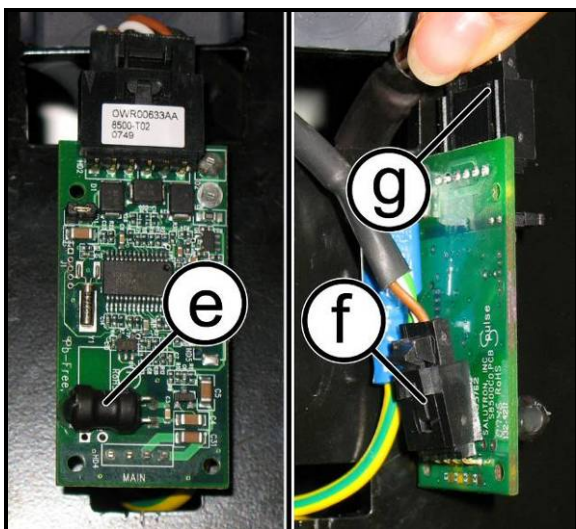

Figure 7.5-3
**WARNING:** During re-assembly, position the receiver so that the coil (b), highlighted in the figure, is turned upwards against the guard (f), of Figure 7.5-3.